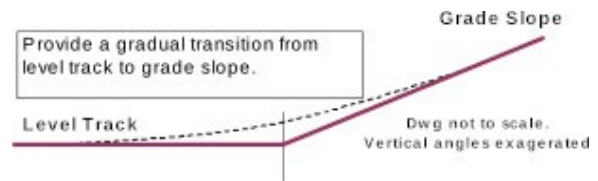

Figure 7
D. Grades are allowed on the OAT tracks. If the track runs through the module and can be connected to other modules at either end then the grade can not exceed 2% (1/4" per foot) and the change from level track to grade must be a vertical curve as illustrated in Figure 7.